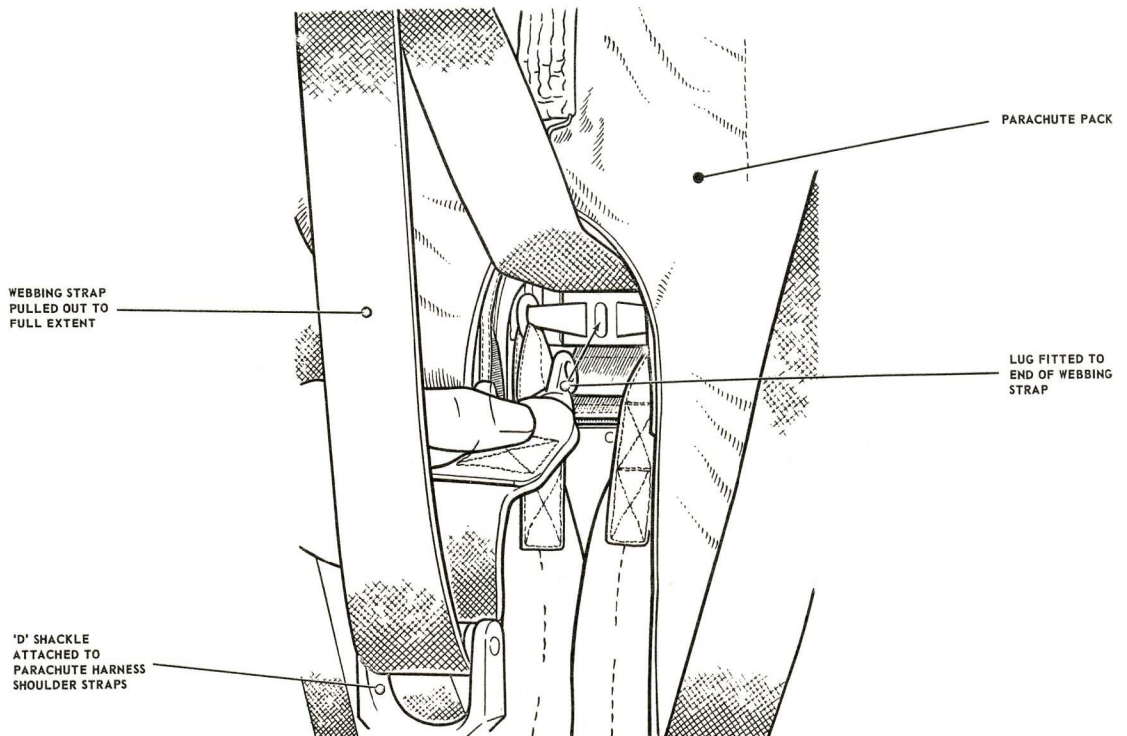
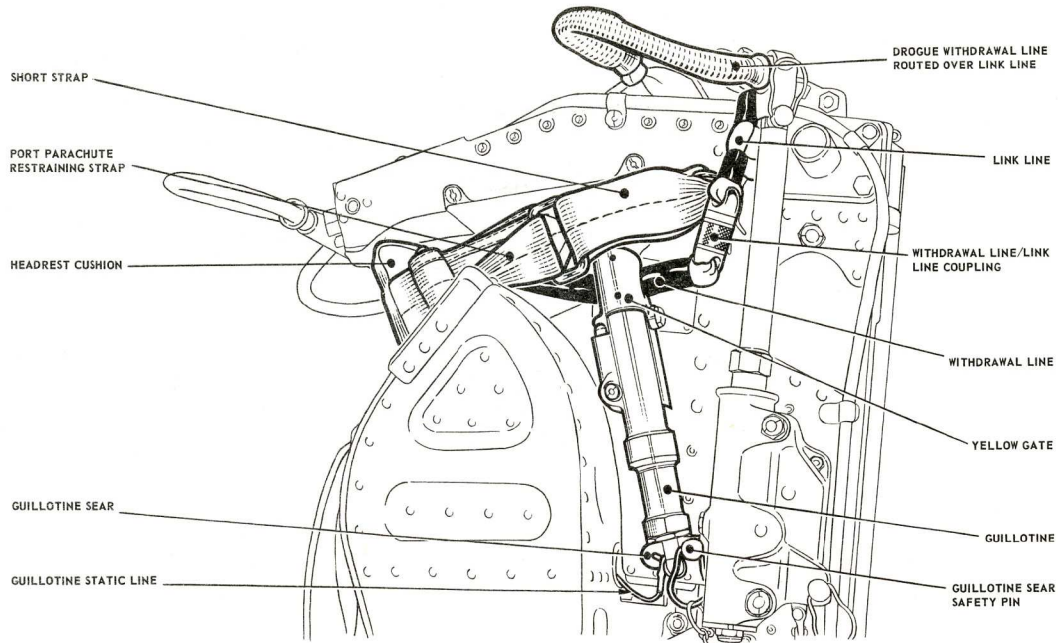

Fig. 3. Insertion of lug into top harness lock
Fig. 4. Arrangement on port side of drogue container
- (5) Place the parachute pack in the parachute container, guiding the static line for the guillotine through its aperture in the back plate. Push the pack well into the container so that it is supported on the support bracket. Bring the two parachute restraining straps through the arch of the pack, ensuring that they are not crossed.
- (6) Ensure that the manual separation handle is in the locked position.
- (7) Move the 'go-forward' lever to the fully forward position and then release it to the centre position. Pull out the webbing strap from under the parachute support bracket and hold it against the spring tension.
- (8) Pass the webbing strap DOWNWARDS through the D-shackle attached to the harness shoulder straps, ensuring that the harness straps are not twisted. Insert the lug fitted to the end of the webbing strap, between the inner extremities of the paddle spreaders into the top harness lock in the back of the seat (*fig. 3*); push the lug in until it locks into position. It may be necessary to partially depress the harness release lever situated below the barostatic time release unit to facilitate the insertion of the lug. Check that it has locked correctly by pulling on the webbing strap. Move the 'go-forward' lever to the rear position and allow the strap to wind back.
- (9) Connect the two halves of the parachute withdrawal line/link line coupling. Open the yellow gate on the top of the guillotine and route the parachute withdrawal line through the aperture in the guillotine. Close the yellow gate and ensure that it correctly retains the parachute withdrawal line.
- (10) Draw the free ends of the parachute restraining straps forward through the arch of the parachute pack, over the pack and towards the rear of the seat, on either side of the drogue container.
- (11) Pass the port restraining strap over the parachute withdrawal line and insert its end through the buckle of the short restraining strap on the port side of the drogue container, from the outside inwards. Ensure that the drogue link line connected to the parachute withdrawal line is routed OUTSIDE the short restraining strap (*fig. 4*).
- (12) Insert the end of the starboard restraining strap through the buckle of the short restraining strap on the starboard side of the drogue container, from the outside inwards.
- (13) Position the headrest wedge pad on the top of the parachute pack, between the pack and the drogue container. Pass the ends of the parachute restraining straps through the buckles on each side of the headrest wedge pad so that the ends emerge on the outside of the buckles.
- (14) Work the straps back and forth in the self-locking buckles on the headrest wedge pad until the parachute pack and headrest wedge pad are strapped tightly to the seat. Pass the free ends back through the buckles on the short restraining straps and stow them neatly between the drogue container and the strap.
- (15) Check that the drogue withdrawal line has been routed OVER all other lines (*fig. 4*).
- (16) Ensure that the safety pin is fitted through the sear of the guillotine firing unit. Attach the guillotine static line to the sear.
- (17) Lift the harness clear of the seat pan and fit the negative-G restraint strap as follows:—
- (18) Fit the personal survival pack into the seat pan, draping the lowering line over the port side of the seat pan.
- (19) Secure the cushion to the seat strap of the harness by passing the strap under the cushion and locating it in position with the two press-studded beackets.
- (20) Pass the leather covered straps of the cushion through the two webbing loops on either side of the personal survival pack from rear to front. Pass the leg straps of the combined harness up through the slot in the cushion and secure the cushion to the pack with the lift-the-dot fasteners. Ensure that the leg loops are not crossed.
- (21) Connect the side quick-release couplings of the personal survival pack to the couplings on the harness, ensuring they pass outside the harness lap straps.